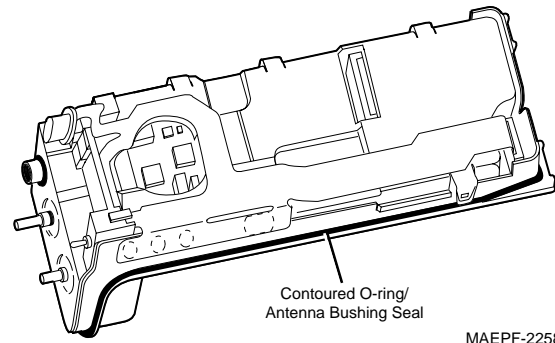

Figure 40-15.
- a. Install the contoured O-ring/antenna bushing seal around the antenna and in the groove provided (see Figure 40-15).